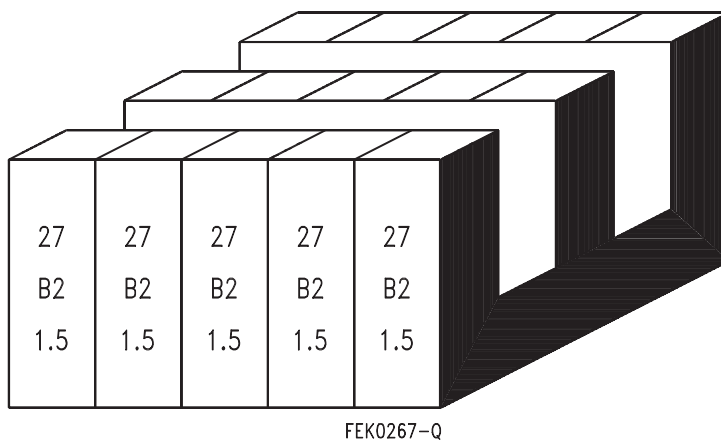

Fig. 1 Marking by ink-jet printer
- **E cores** are marked by an ink-jet printer on the outside of the legs (figure 1).